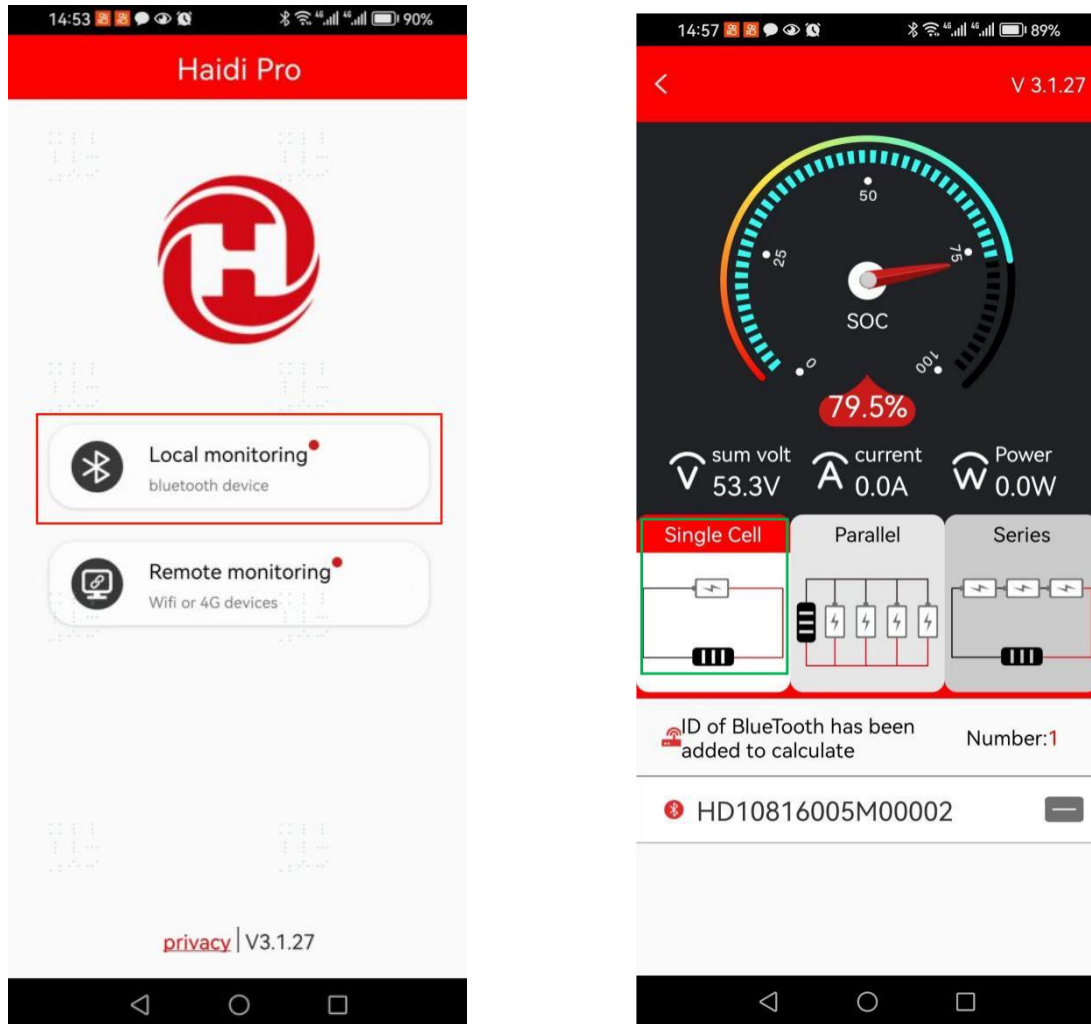

Figure 4 Main interface
2.1 Click the HAIDI software in Figure 3, open the APP software, and click "Local monitoring" as shown in Figure 4;